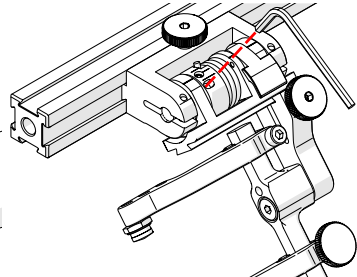

Fig. 200 - Unlatched position
3. Insert the short arm of a 3 mm hex wrench into the 3 mm slot (Fig. 200).